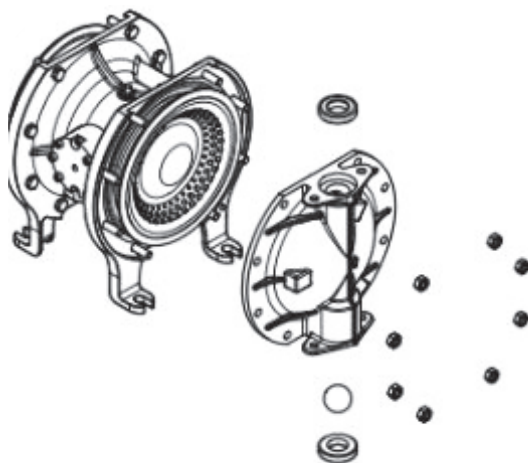

Fig. 4: Pump chamber Disassembly incl. valve seats and balls
- Loosen the screws of the pump chambers (Fig. 4)